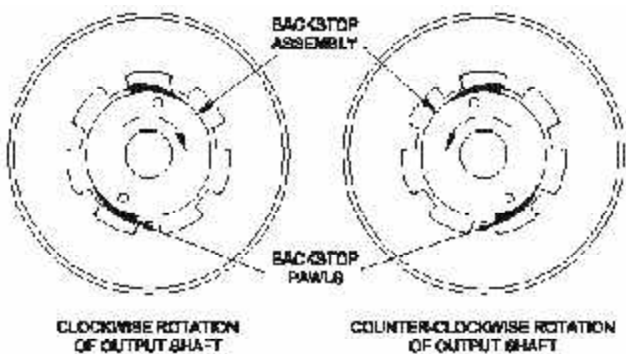

Figure 6.3.5.6—Backstop on Input Assembly
**NOTE:** The desired rotation of the reducer is determined by viewing thru the output shaft side. Reference Figure 6.3.5.6 for orientation of the backstop after being assembled onto the input shaft.